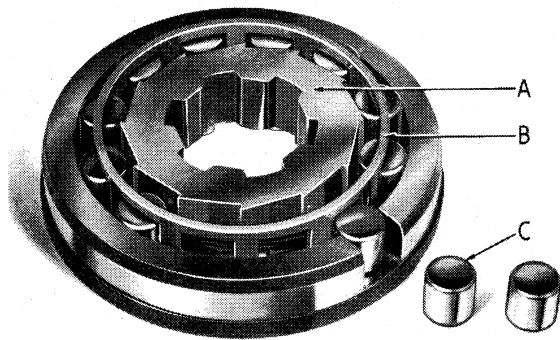

Fig. 19 Assembly of Roller Clutch.
The inner member with cage and spring is then placed into the assembly ring and the rollers (C) are pushed in through the slot in the rim of the ring (Fig. 19). The roller clutch can then be
The assembly of the roller clutch as shown in this Manual covers all the Triumph Sports, Prefix No. 1275/, and Vanguard Overdrive Units which have prefix No. 1327/. Earlier Vanguards which have prefix No. 1287/ on the plate of the overdrive are fitted with the narrow roller clutch. Assembly of this unit differs slightly, as the lip on the outer cage is towards the rear of the unit, and a locating peg on the inner member locates in a corresponding hole in the planet carrier. It will be seen, therefore, that after assembling the rollers as in Fig. 19, it will be necessary to transfer the roller clutch into another ring, Churchill Tool No. L189, and then from this ring into the annulus. This will then ensure that the lip on the outer cage is to the rear, and the locating peg facing forward.